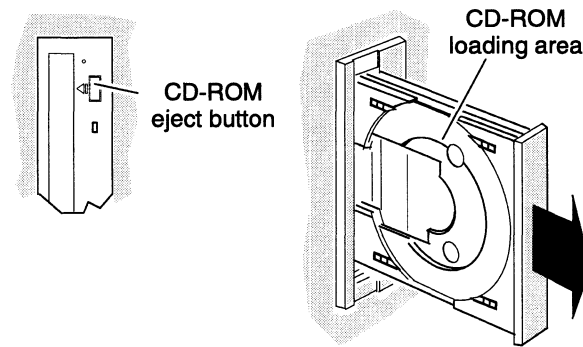

Figure 12 Opening the CD-ROM drawer using the eject button
2. Press the CD-ROM eject button located on the drive's front panel. The CD-ROM drawer moves out, exposing the loading area (Figure 12).